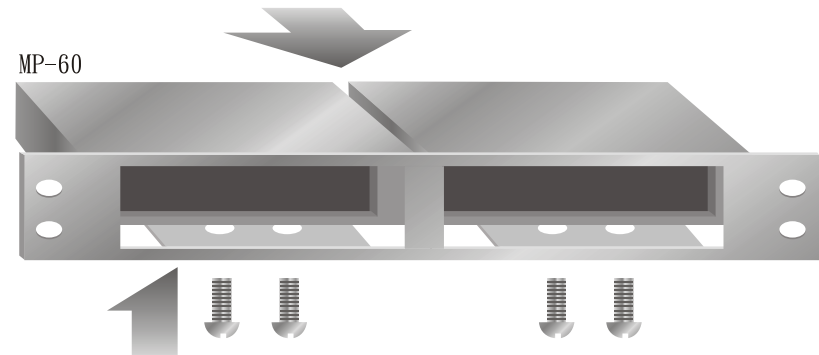

Fig. 4.
1. Mount the two connected R-1000 or R-2000 into an optional MP-60 panel, as shown in Fig. 4.